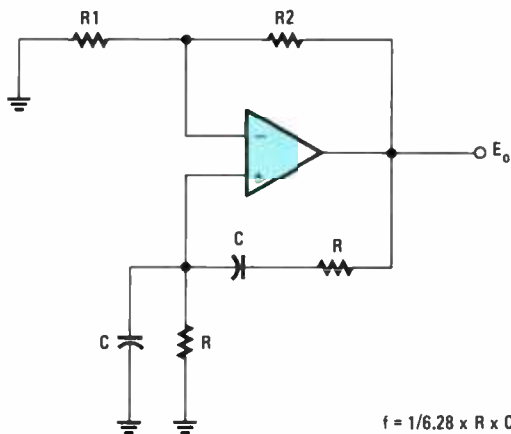

Fig. 20—This op-amp Wien-bridge oscillator circuit generates a sine-wave output.
35. Op-amps make excellent building blocks for a wide variety of signal sources: everything from simple oscillators to sophisticated function generators. An example is the sine-wave Wien-bridge oscillator shown in Fig. 20. It produces a
36. (positive feedback)  $R1$  in Fig. 20 is usually a light bulb with a positive temperature coefficient: Its resistance increases if the current through it increases. If the output voltage increases, the current in  $R1$  increases, thereby increasing the resistance of  $R1$ . The result is that the gain is decreased, which compensates for the original output increase. That simple AGC (Automatic Gain Control) keeps the